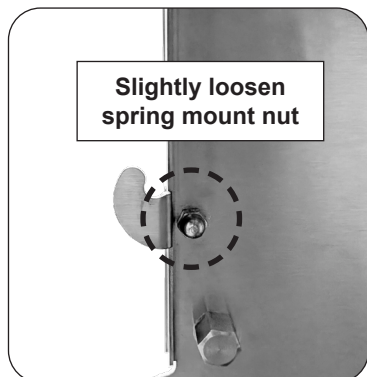
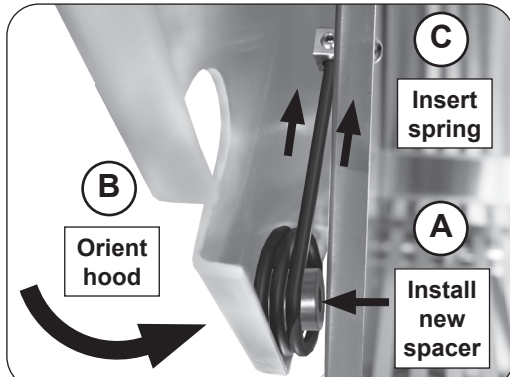

Fig. 41-3 Slightly loosen nut
Fig. 41-4 Install hood
1. Locate the spring mount on the left side of the base oven interior wall (Fig. 41-3). Slightly loosen the nut (1/2 turn or less) to allow some play for the next step.
2. Ensure the spacers are attached to both sides of the hood cutouts (Fig. 41-4, A), and (using two people) carefully orient the hood back onto the grill (Fig. 41-3, B). While situating the hood, carefully insert the spring into the spring mount and secure with an Allen wrench (Fig. 41-4, C).
4. Fully tighten the spring mount from inside the base oven. Reference Fig. 41-3.